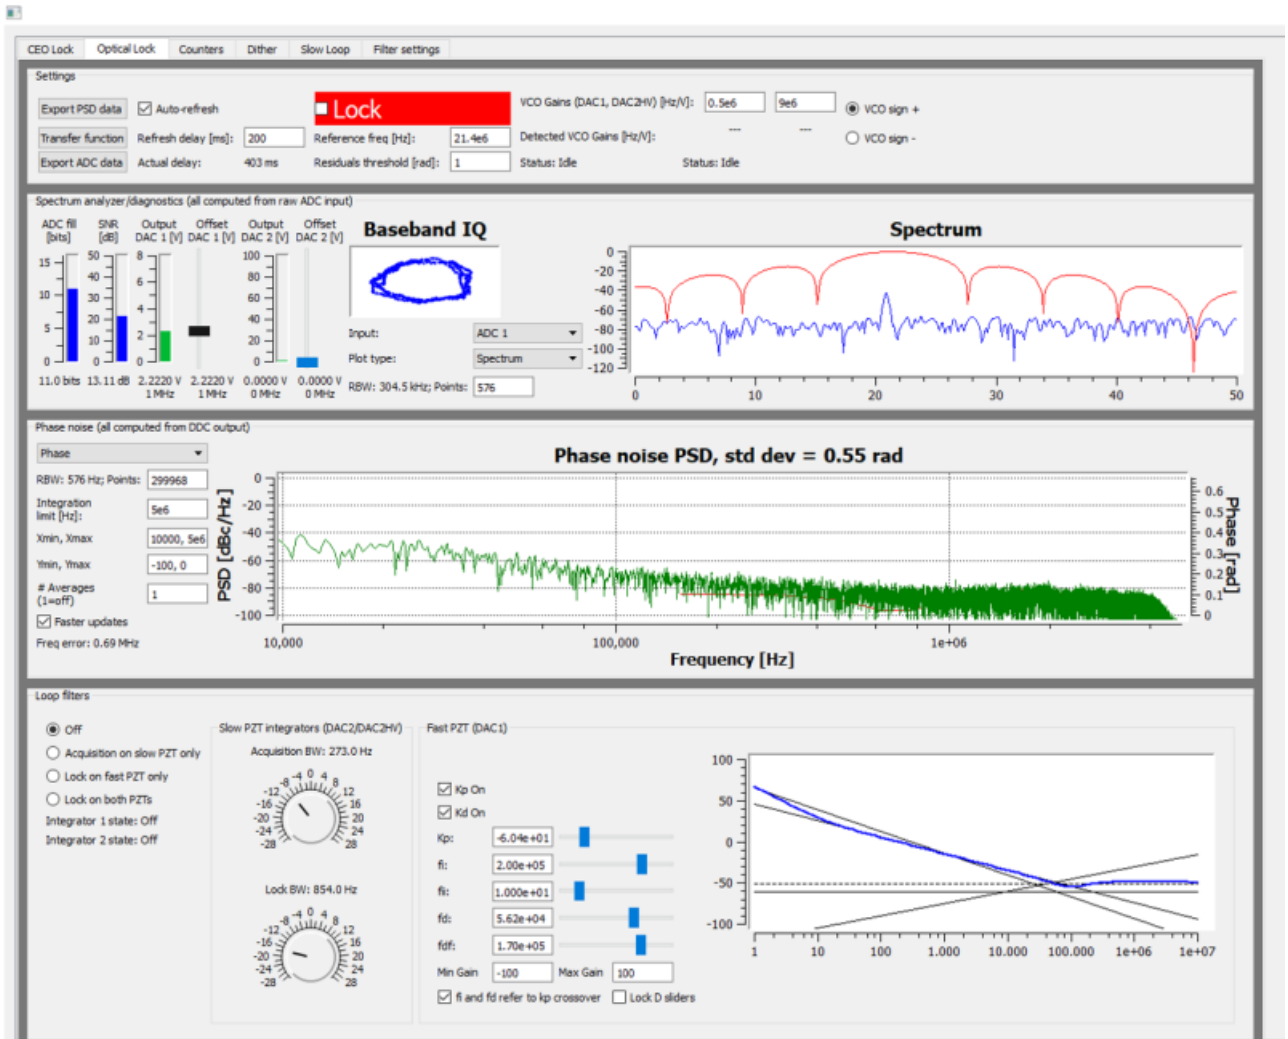

Fig. 7: Centering f_{opt} on reference frequency (Baseband IQ optimization)
1. Navigate to the "Optical Lock" window. Center the beat note near the reference frequency: adjust the "Offset DAC 1" slider (or your reference laser frequency) until you see a circular Baseband IQ diagram (figure 7).